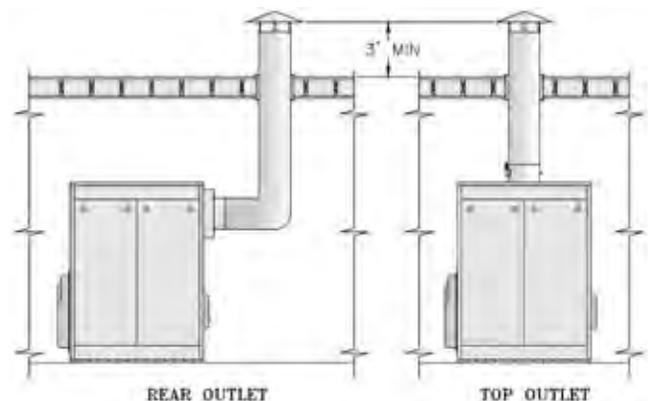

Figure 3a: Typical Arrangement for Stub Vent
The Series 24 boiler is designed for forced draft firing and may be used with a conventional natural draft stack (15' minimum height) or a stub vent, sometimes called a diesel stack (see Figure 3a). See Table I for the proper vent outlet size. For low silhouette vent terminations, see Figure 3b. Draft controls are not normally required, although they may be used on installations where a natural draft stack is used or on multiple boiler installations with a common stack. The boiler is provided with a breeching damper, which should be adjusted to maintain a positive pressure of 0.1" W.C. in the vent connector box during burner high fire operation (see breeching pressure sensing port in Figure 1).
If the venting system is designed for positive or forced draft venting, the boiler, vent connector and stack will operate under positive pressure. Gas tight vent systems designed for pressure systems must be used to prevent flue by-product leakage. The vent height is usually limited to prevent negative draft, typically three (3) feet above the roof line (see Figure 3a). The damper shall be adjusted to maintain a positive pressure of 0.1" W.C. in the vent connector box during burner high fire operation (see breeching pressure sensing port in Figure 1).